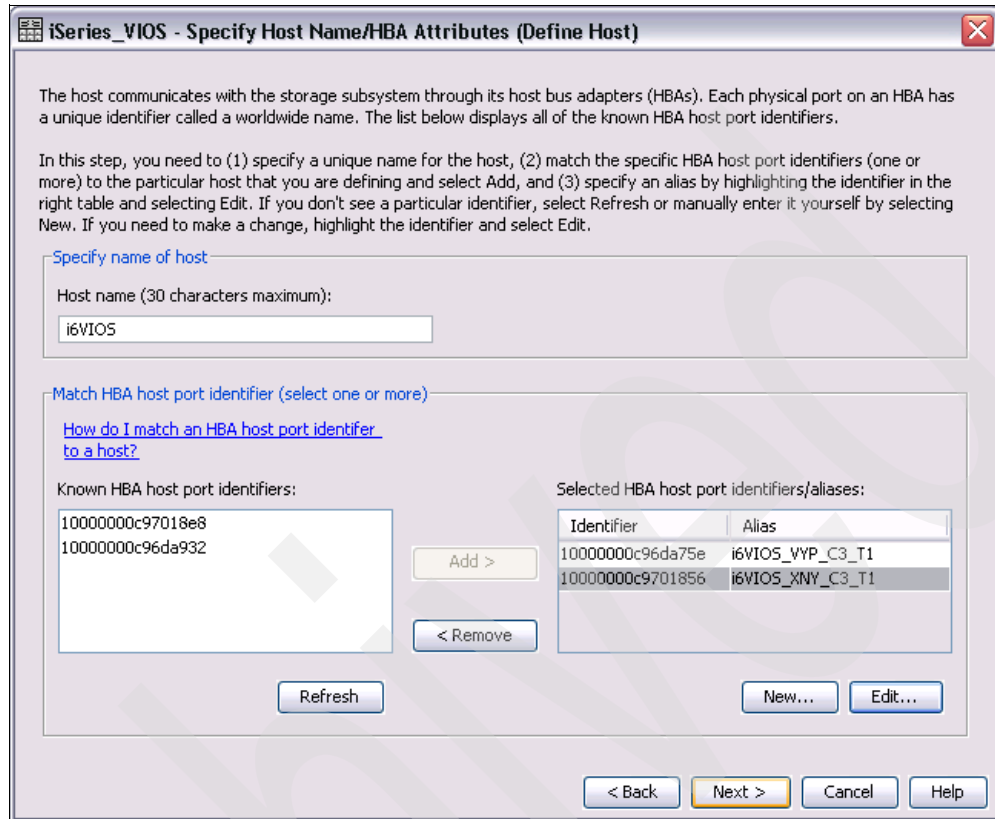

Figure 7-68 DS Storage Manager Specify Host Name/HBA Attributes dialog after aliases definition
9. After having defined the aliases for both of our VIOS partition's host ports we select **Next** to proceed, as shown in Figure 7-68.